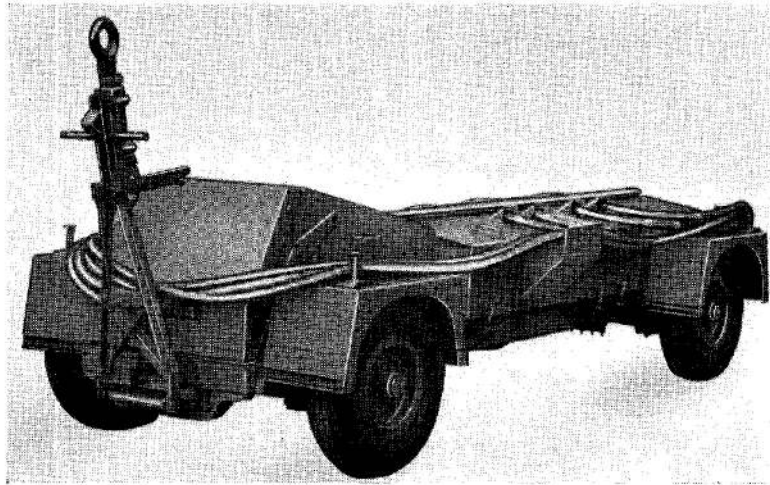

Fig. 1. General view of Simstart trolley
1. Simstart trolleys are designed to provide the necessary starter control circuits and the electrical power for the simultaneous starting of all four engines fitted to the Victor Mark I and IA, Vulcan Mark I and IA or Valiant aircraft. Fig. 1 illustrates a Victor Simstart trolley. A separate trolley is provisioned for each type of aircraft but the basic details, dimensions and weight of the three trolleys are virtually identical, the differences being primarily confined to the start panels and associated wiring. This chapter refers to the chassis, battery connections, and sections of the electrical installation which are common to the three types of trolleys. The Simstart trolley is intended for use only on aircraft which are modified to accommodate it. During simultaneous engine starting the aircraft control and start panels are inoperative, a control panel and four similar start panels fitted to the trolleys are in complete control of the starting procedure. A separate chapter providing comprehensive information on the individual circuits and start panels will be found in Sections 2, 3 and 4 of this publication.